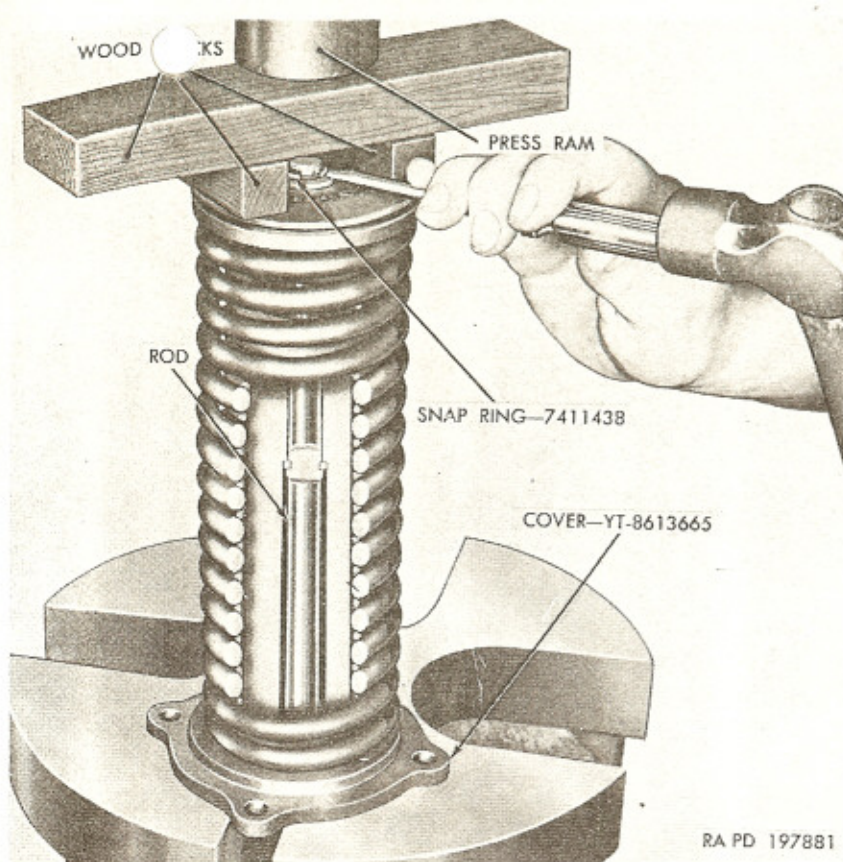

Figure 160. Removing accumulator piston pin snap ring using fabricated accumulator rod.
a. Fabricate a rod from straight round steel stock $\frac{3}{8}$ inch in diameter, 4 inches long, and chamfer each $\frac{1}{8}$ inch. The rod must be installed in the accumulator before disassembly procedures are started. Remove pipe plug (L) from cover (G); then insert rod into accumulator. Firmly reinstall pipe plug (L) into cover (G).
b. Remove piston seal (B) from accumulator piston (C).
c. Place accumulator assembly under press ram with cover down. Place 1-inch block of wood on each side of piston pin; then lay a flat block across the two blocks (fig. 160). Press accumulator piston down until snap ring (A) can be removed. Be sure accumulator piston (C) comes off piston pin (K) as press
is released (fig. 160). It may be necessary to tap piston to make it come off pin.
f. Remove pipe plug (L) from cover (G); then remove accumulator rod (fig. 160). Remove piston pin (K). Remove snap ring (A) from cover end of piston pin.
a. Install new snap ring (A) on piston pin (K) at cover end.
b. Insert piston pin (K) in hole in cover (G) and install accumulator rod (fig. 160); then install 1/2-inch pipe plug (L) in cover.
c. Position accumulator inner and outer springs (D and E) over cover (G).
d. Position accumulator piston (C) on top of springs with flat side of piston away from springs.
e. Position assembly in arbor press (fig. 160) with cover down.
f. Lubricate piston pin hole in piston to prevent scoring when pressing on pin. Press piston over piston pin far enough to install new snap ring (A).